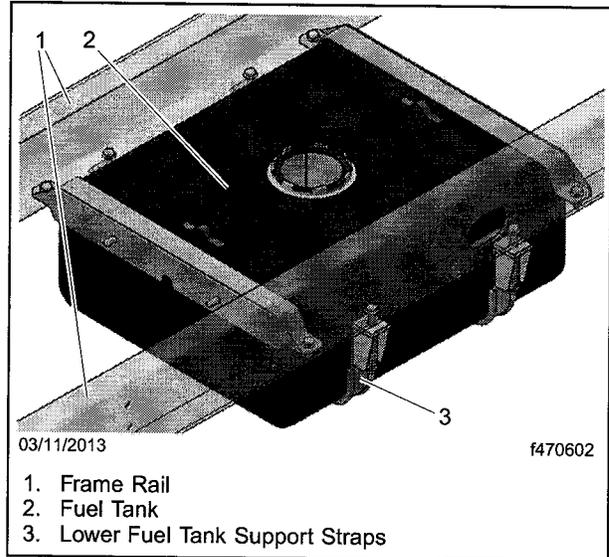

Fig. 3, Lower Fuel Tank Support Straps
18. Using the fuel tank support straps and new fasteners, attach the new fuel tank assembly to the chassis. See **Fig. 3**. Using a distance from the base of the washer under the spring to the top of the bracket, tighten the nuts  $111\pm 3$  mm; do not collapse the isolator springs.